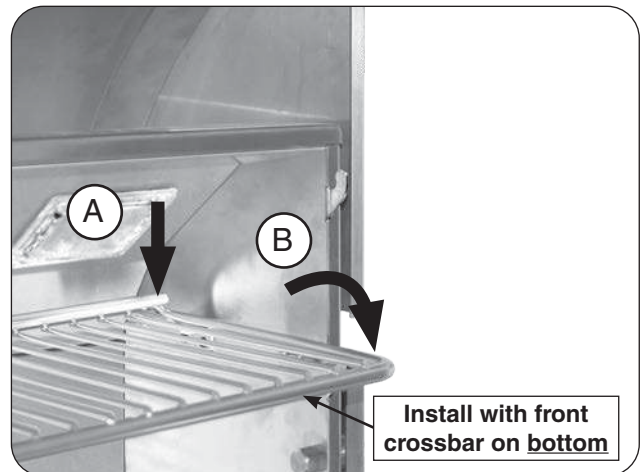

Fig. 24-2 Place warming rack for use
2. With the warming rack oriented as shown, carefully rest the rear of the rack onto the rear support plates (Fig. 24-2, A), then rest the warming rack arms onto the two lower hooks for use (Fig. 24-2, B). Repeat for the other warming rack.